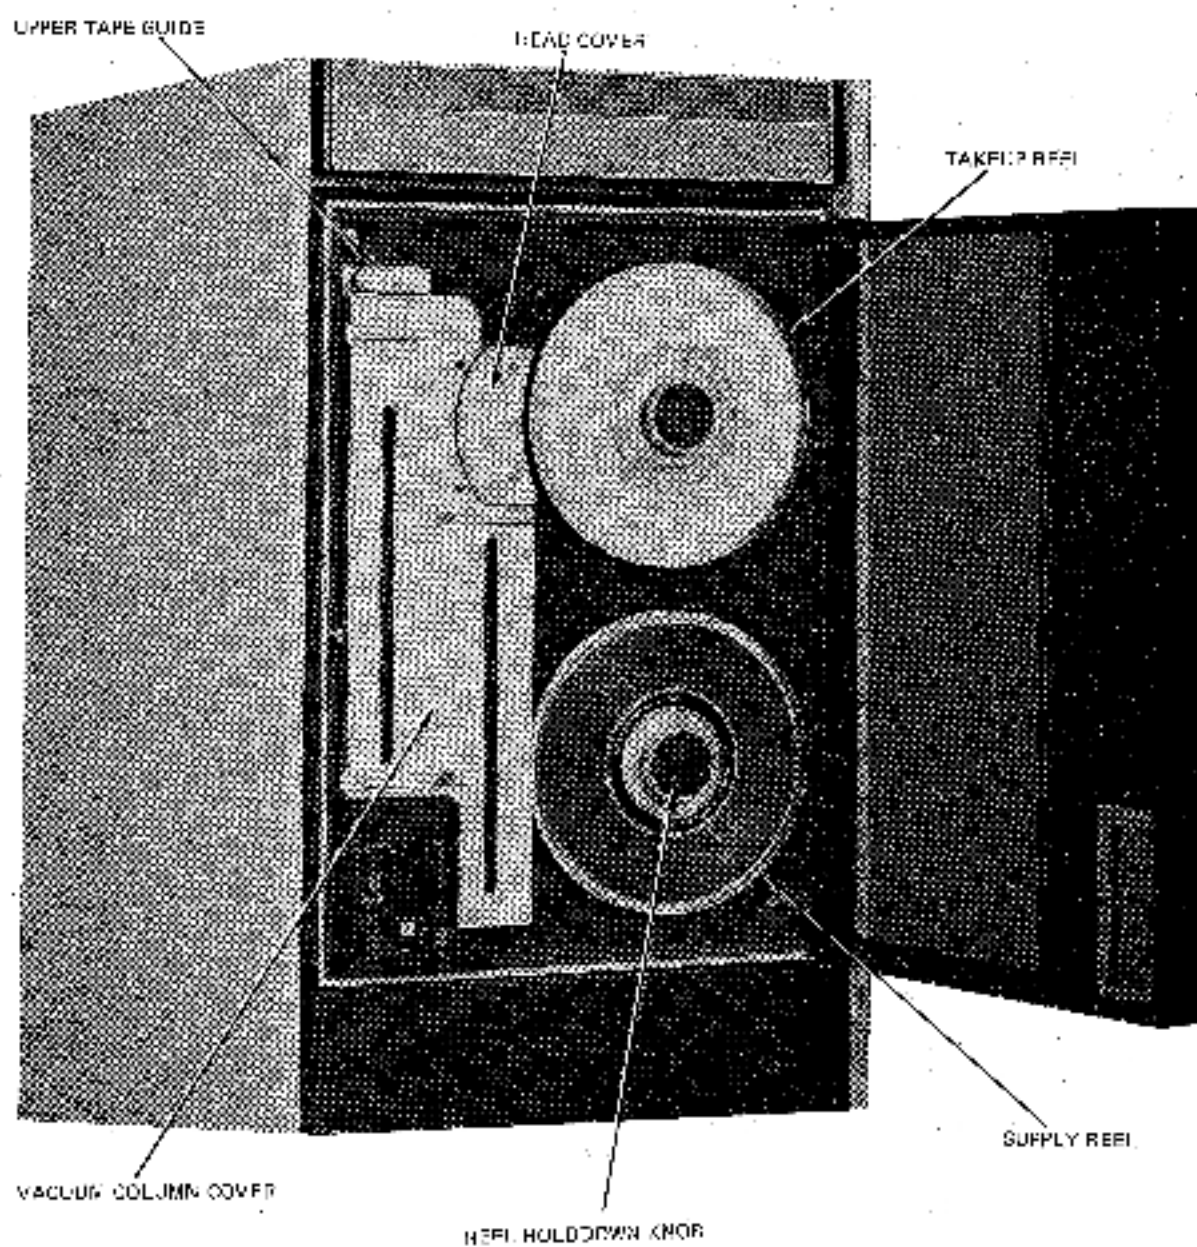

Figure 7-10 T316 Magnetic Tape Drive
7.4.1.1 TU10 and TU16 Drives (Refer to Figure 7-10)